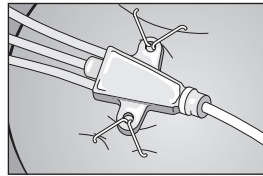

Figure 2
6. Firmly squeeze anchoring device together to close staple and secure catheter to skin (refer to Figure 2).